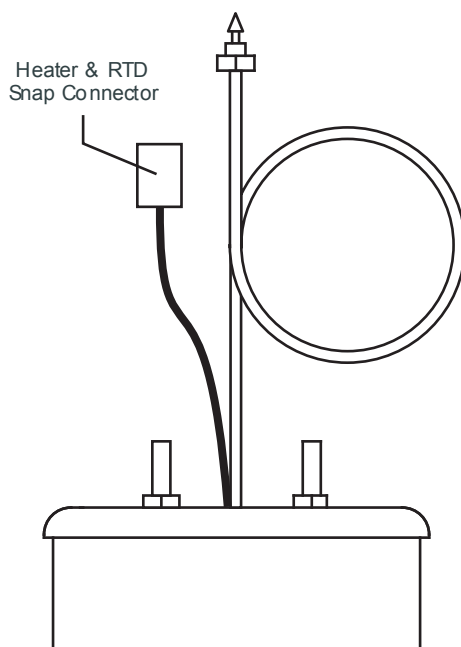

Figure 7-3
- 7.1.5 Disconnect the oven temperature control cable via the white plastic “snap” connector (Figure 7-3).